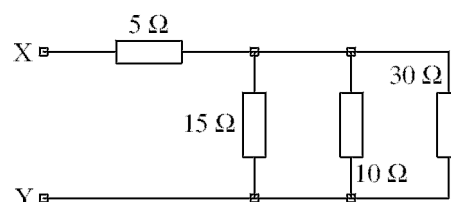

Figure 1a
1. a. For the circuit of figure 1a, find the effective resistance between the terminals X and Y